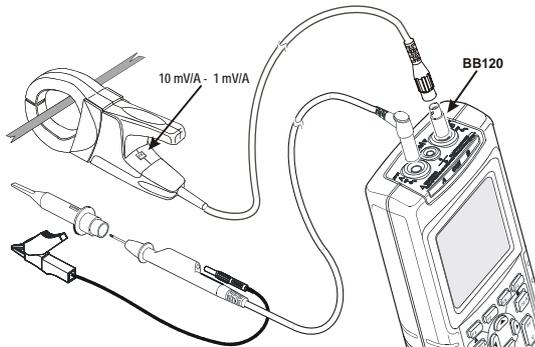

Figure 3-1. Input Connections for Harmonics
- 1 Connect the inputs as indicated in figure 3-1